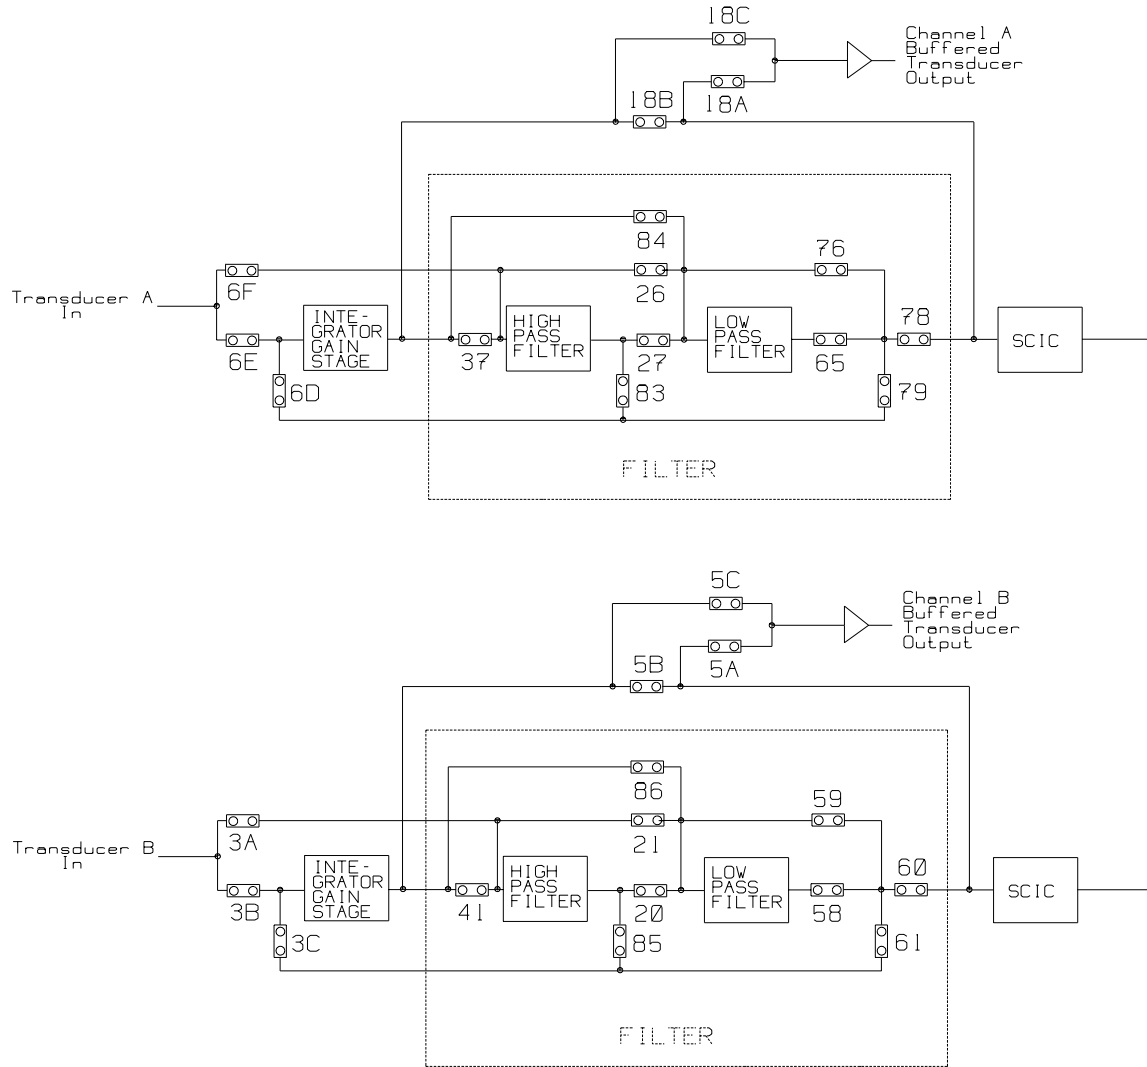

FIGURE 1. SIGNAL FLOW PATH
If any filters are located before the Integrator/Gain Stage, the buffered transducer output will be filtered by those filters. Refer to Figure 1 in Section 19.3 (duplicated in Section 20.3).
Follow these steps, in the order below, to program the monitor to operate with or without filters. After choosing the filter type and the location of the Integrator/Gain Stage you can check the signal flow path using figure 1 in section 19.3.
1. Set the location of the Integrator/Gain Stage by installing or removing the jumpers on the main and filter boards as shown in the table below. Refer to Sections 18.1 and 19.2 for the location of jumpers. Figure 1 Section 19.3 illustrates the signal flow path for different jumper configurations.